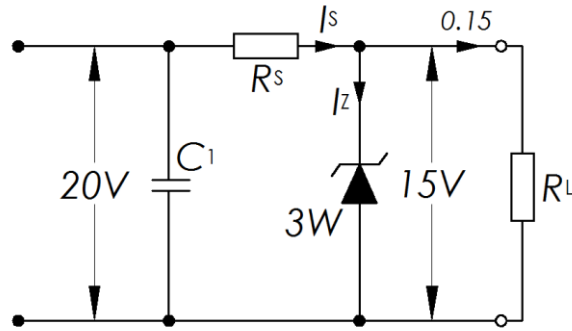

Figure 3.13
13. Consider **Figure 3.13** and calculate the following: